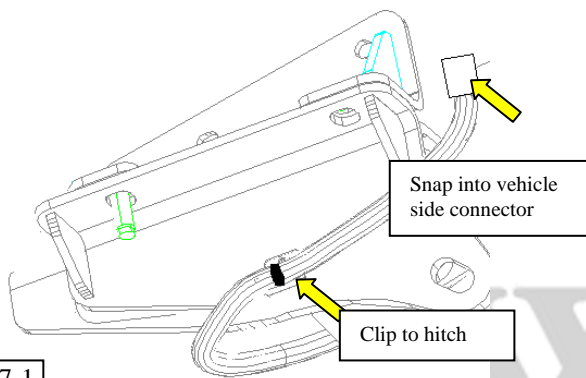

Fig. 7-1
- (a) Detach wiring from break away tape and connect 4th clip to hitch as shown. (Fig 7-1)
- (b) Remove cover from vehicle connector and connect wiring into vehicle side. Ensure connectors click and locks (Fig 7-1)